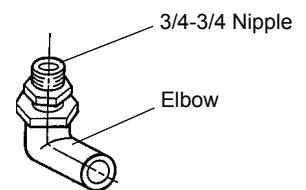

Fig. 6
- 3) Connect the 3/4-3/4 nipple (accessory) to the elbow (accessory) as indicated (Fig. 6). P.T.F.E. tape and/or a suitable sealing compound should be used to obtain a leak free joint.